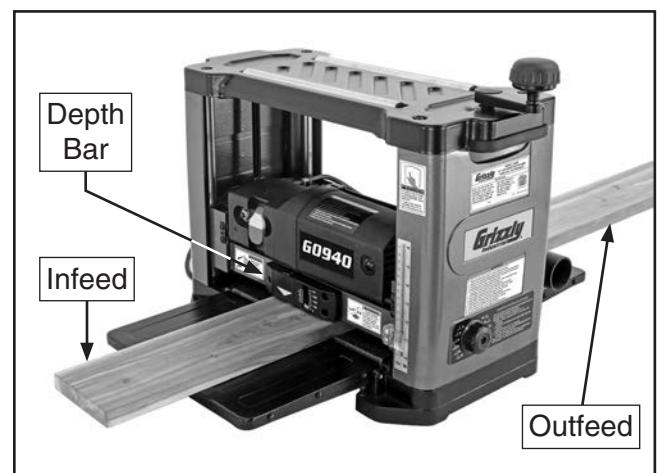

Figure 18. Basic planing operation setup.
2. Lower cutterhead until depth bar (see **Figure 18**) just touches workpiece.